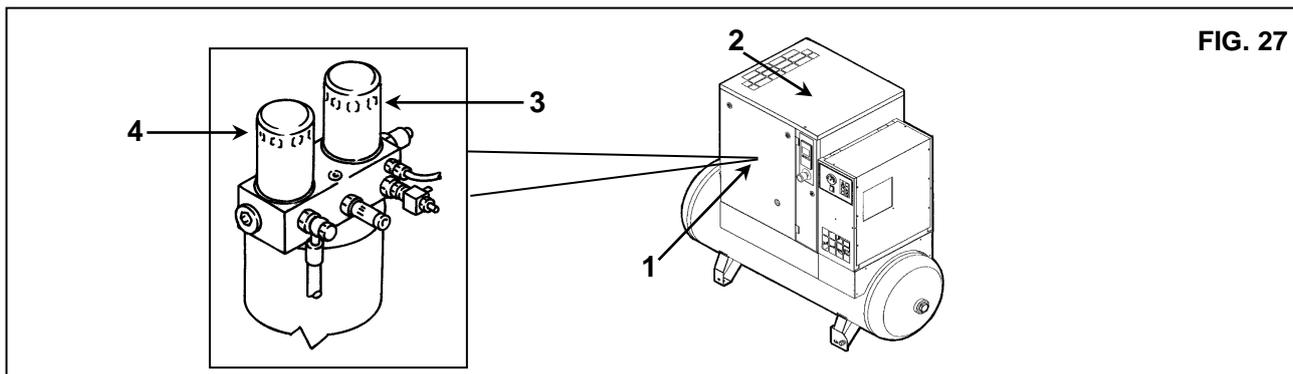

FIG. 27
23.0 REPLACE THE OIL SEPARATOR FILTER AND THE OIL FILTER (FIG. 27)
- Open the front panel Ref. 1 Fig. 27 with the special key.
- Remove the fixed protection device (machine cover) Ref. 2 Fig. 27.
- Remove the oil separation filter Ref. 3 and oil filter Ref. 4 Fig. 27.
- Close the fixed protection (machine cover) Ref. 2 Fig. 27 device again, using the appropriate safety screws.
- Close the panel Ref. 1 Fig. 27.